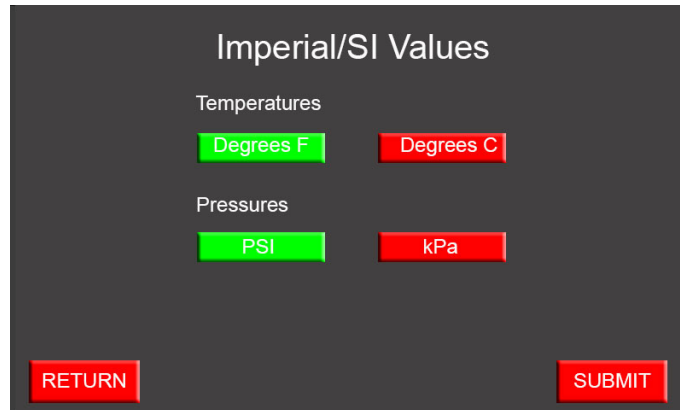

Figure 4-13 Typical Parameter Units screen
The Imperial/SI Values screen, shown in Figure 4-13, allows the operator to select Imperial or *Système Internationale* (SI) (also known as metric) units of measurement. The default units of measure are Imperial units of degrees in Fahrenheit and pounds per square inch (PSI), but the user may elect degrees in Celsius or kilo Pascal (kPa).